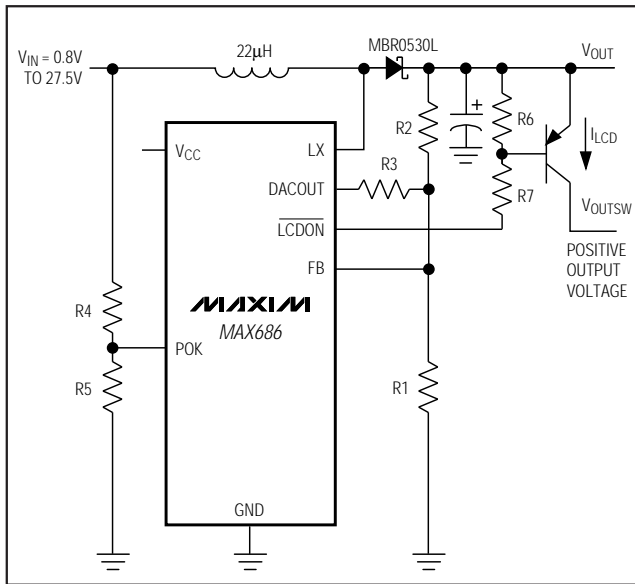

Figure 6. Using the POK for Input Voltage Monitoring
POK is the input to the power-OK comparator. The comparator drives an internal N-channel MOSFET. The MOSFET's open-drain output,  $\overline{\text{LCDON}}$ , can drive an external PNP transistor or P-channel MOSFET, switching a positive  $V_{\text{OUT}}$  to the LCD (Figures 6 and 7). When the voltage at POK exceeds 1.125V (power OK),  $\overline{\text{LCDON}}$  goes low, turning on the external PNP transistor. When the voltage at POK drops below 1.125V (power not OK), the external PNP transistor turns off, cutting off power to the LCD display. This feature ensures that the LCD display is not damaged due to improper voltage levels. During shutdown or undervoltage lockout,  $\overline{\text{LCDON}}$  is high impedance.
When the voltage at POK is greater than 1.125V (typical), the open-drain LCDON output pulls low. LCDON can withstand up to 27.5V to control an external PNP transistor to switch on the MAX686's positive output (Figures 6 and 7). A PFET can also be used, but a resistor-divider must be used in conjunction with it, so that the PFET does not exceed its  $V_{GS}$  rating. Three useful applications of this feature are as follows:
- An input-sensing cutoff for positive outputs. Connect POK to a voltage divider to sense the input voltage. The output switches on only when the input reaches the set level (Figure 6).
For input voltage sensing, a resistor-divider (R4-R5, Figure 6) from  $V_{IN}$  to POK controls the open-drain output LCDON, which pulls low when  $V_{POK} > 1.125V$ . Choose  $R5 = 100k\Omega$ . For example, if the minimum battery voltage is 5.3V, then determine R4 as follows: